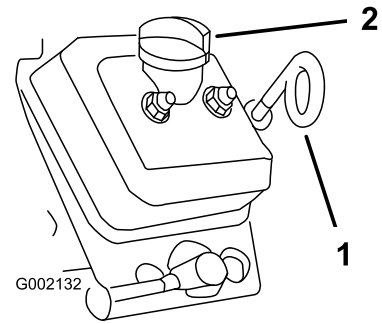

Figure 32
3. Use a rag to clean around the oil dipstick and fill cap (Figure 32) so that dirt cannot fall into the dipstick tube or oil-filler neck and damage the engine.
4. Remove the dipstick and wipe it clean (Figure 32).
5. Slide the dipstick into the dipstick tube and ensure that fully seats (Figure 32).
8. Install the filler cap (Figure 32).
9. Install the oil dipstick and firmly seat it (Figure 32).